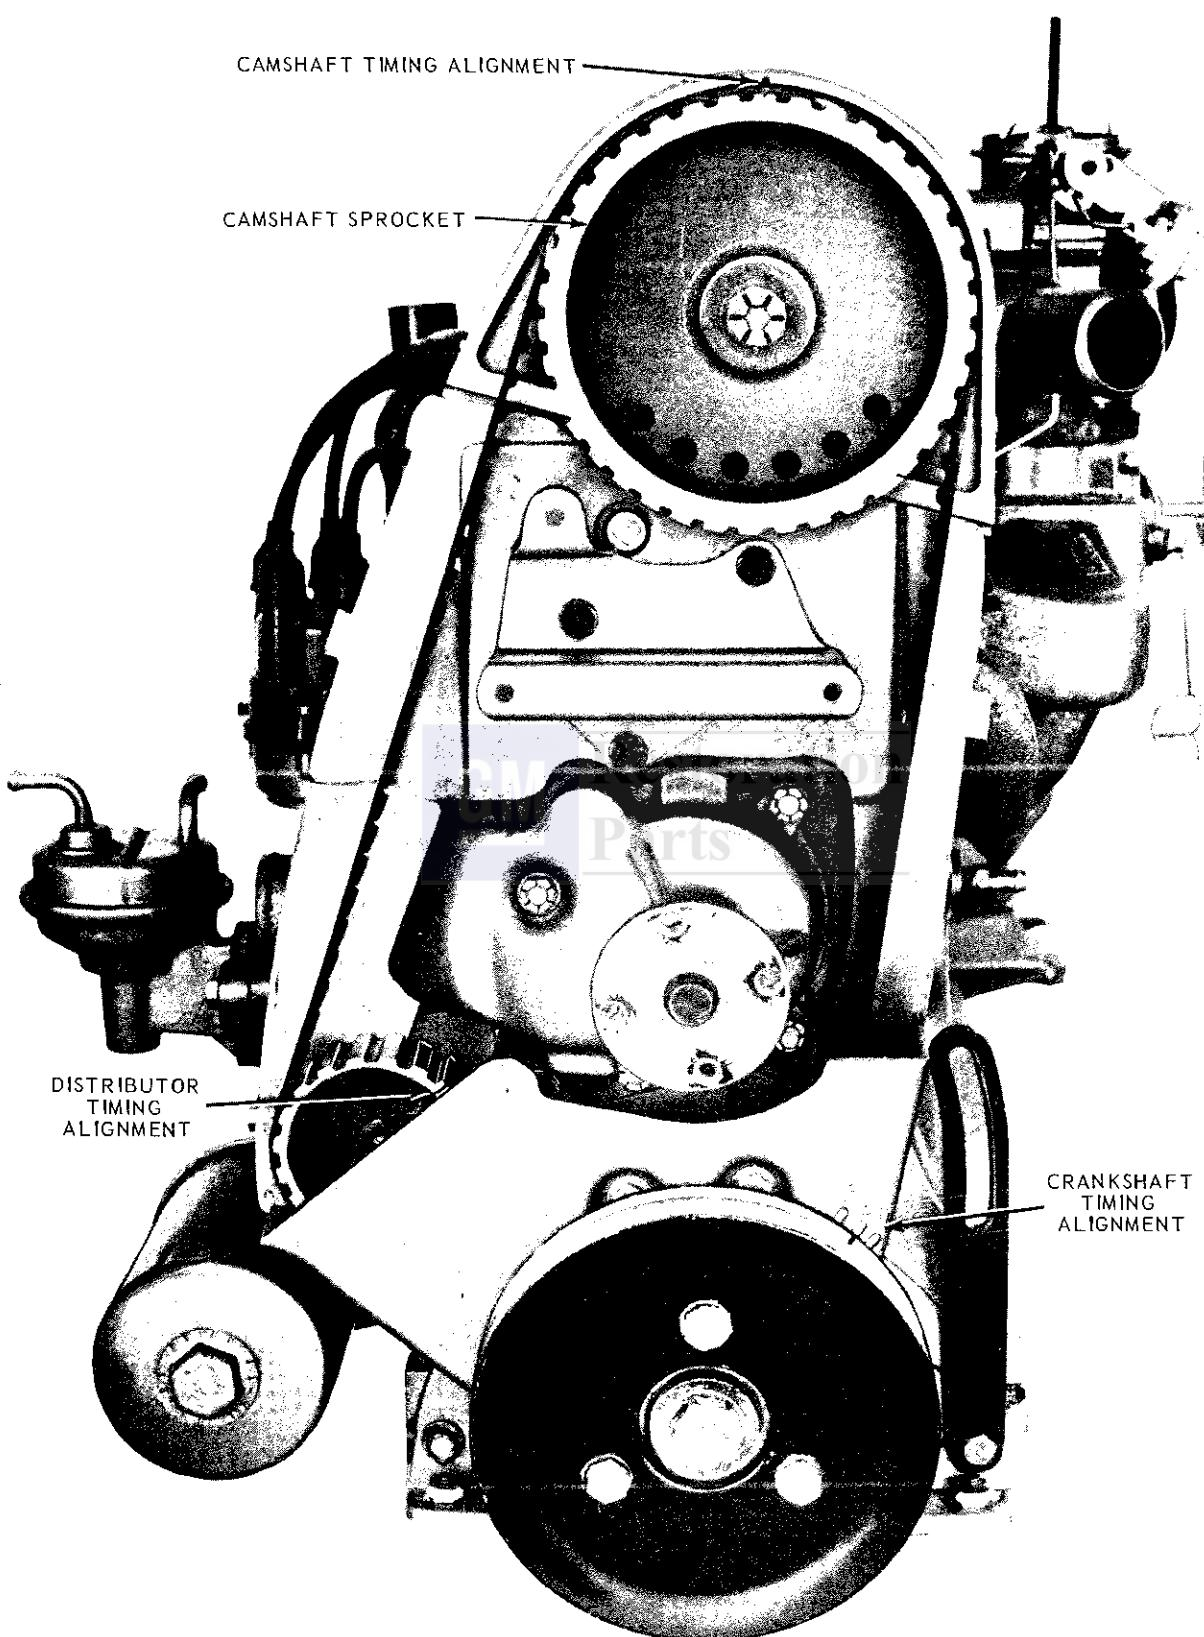

Fig. 6-7 Valve Timing Marks
2. Remove sprocket to camshaft retaining bolt (Fig. 6-7).
- NOTE:** *For ease of reassembly, index three timing marks as shown in Fig. 6-7.*